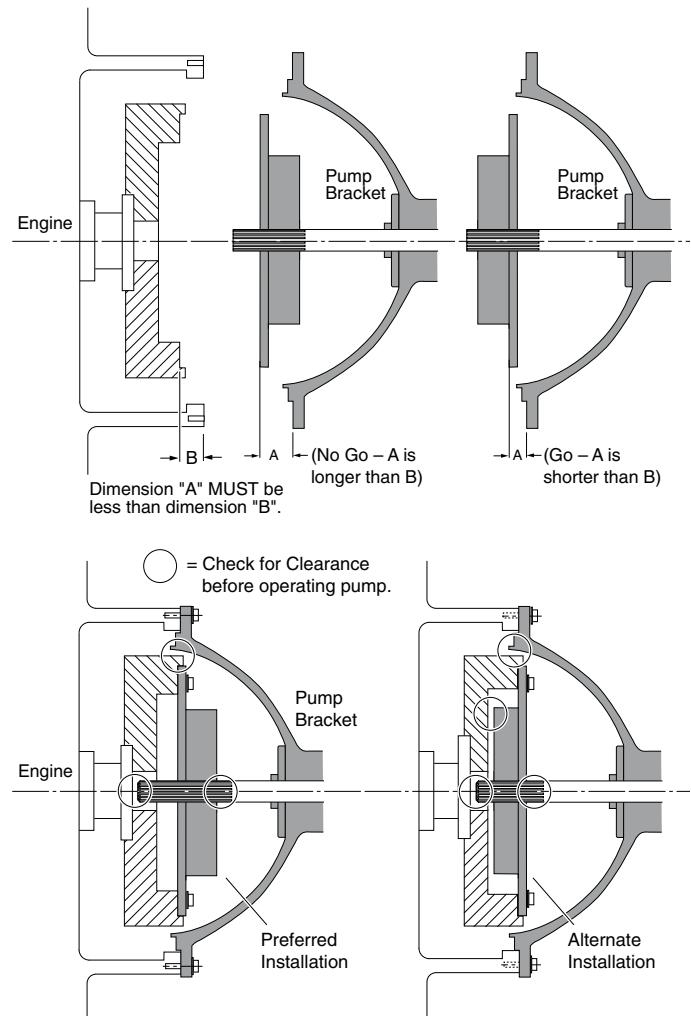

Figure 3
- Measure the distance from the engine side of flywheel coupling adapter ring to the mounting face of the pump bracket. Refer to Figure 3 below, **Dimension "A"**.
- Next, measure depth from face of flywheel housing on engine, to face on flywheel against which coupling will be bolted. Refer to Figure 3 below, **Dimension "B"**.